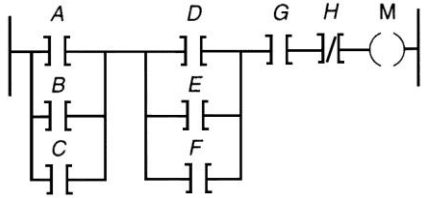

Figure 4-20 PLC ladder diagram logic gate array answer for question 38.
38. Draw the equivalent gate logic array for the PLC ladder diagram shown in Figure 4-20.